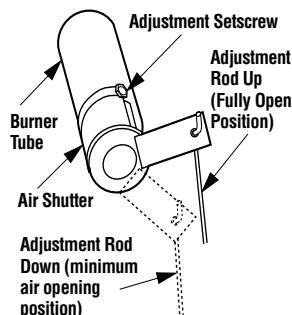

Figure 56 - Burner Air Shutter Adjustment
1. Locate adjustment rod and adjust air shutter to the standard setting as shown in **Figure 56** (adjustment rod is located in the lower control compartment).